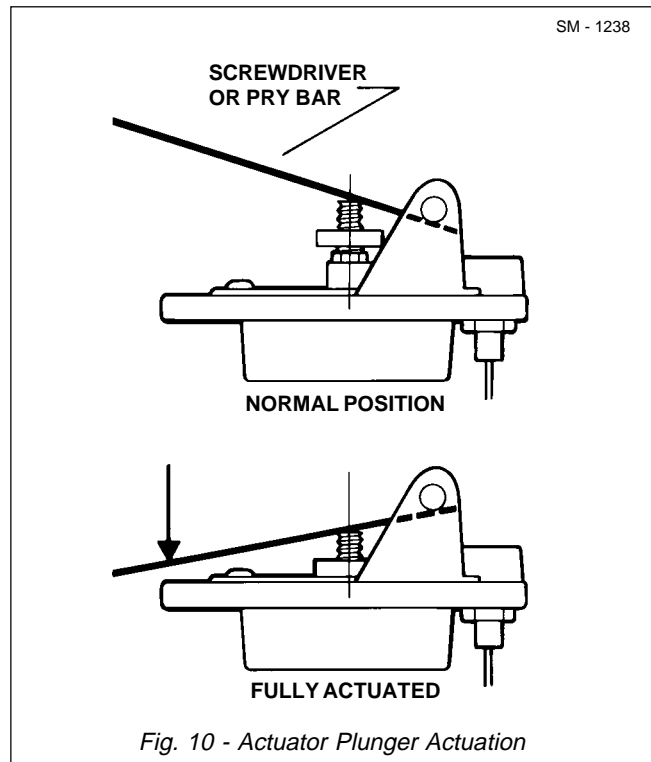

Fig. 10 - Actuator Plunger Actuation
1. Position the valve in the test fixture to allow plungers to be activated by hand using a lever. See Fig. 10.
2. Attach pilot supply line to 'Px' port of valve body (20).
3. Attach main supply lines to 'P1' and 'P2' ports of valve body (20).
1. Install pivot pin (38) in actuator base (46) by itself without installing pedal (50) assembly.
2. By taking a screw driver or pry bar and placing it under pivot pin (38) and on top of actuator plunger (2) assembly, you will be able to actuate each circuit individually. See Fig. 10.
3. Gradually apply pressure on each circuit to check for leaks. Make sure adjustment collar (1) is screwed all the way down on the threads.
4. Adjust adjustment collar (1) up (anticlockwise) starting with one turn increments until the output pressure is 159 bar (2 300 lbf/in²) at port 'B1' with adjustment collar (1) contacting actuator base (46) (fully actuated). See Fig. 10. Fine adjustment will require only turning the collar in 1/8 turn increments.
5. Adjust adjustment collar (1) up (anticlockwise) starting with one turn increments until the output pressure is 52 bar (750 lbf/in²) at port 'B2' with adjustment collar (1) contacting actuator base (46) (fully actuated). See Fig. 10. Fine adjustment will require only turning the collar in 1/8 turn increments.
8. Tighten the capscrews in adjustment collars (1) to 3 - 3.5 Nm (25 - 30 lbf in). You may have to rotate entire actuator plunger (2) to get to the capscrews.